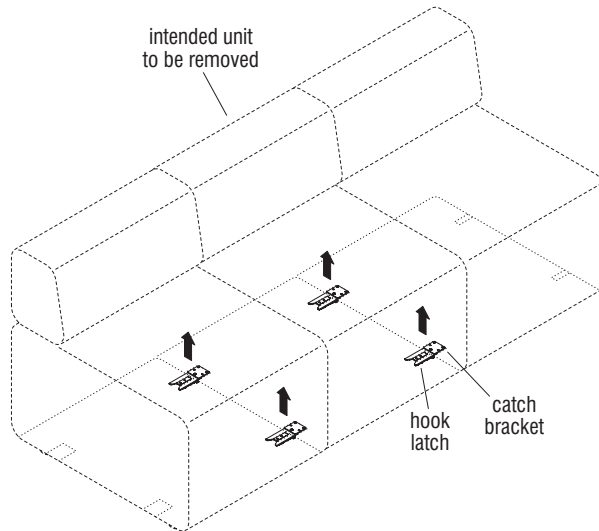

Figure 7
1. To detach two units from ganging together, lift up on the side of intended unit to be removed with hook latches in order to lift the hook latch from the catch bracket's grasp. If the affected unit is ganged on the opposite side, lift the unit next to the affected unit to disengage the catch brackets (Figure 7 & Detail F).